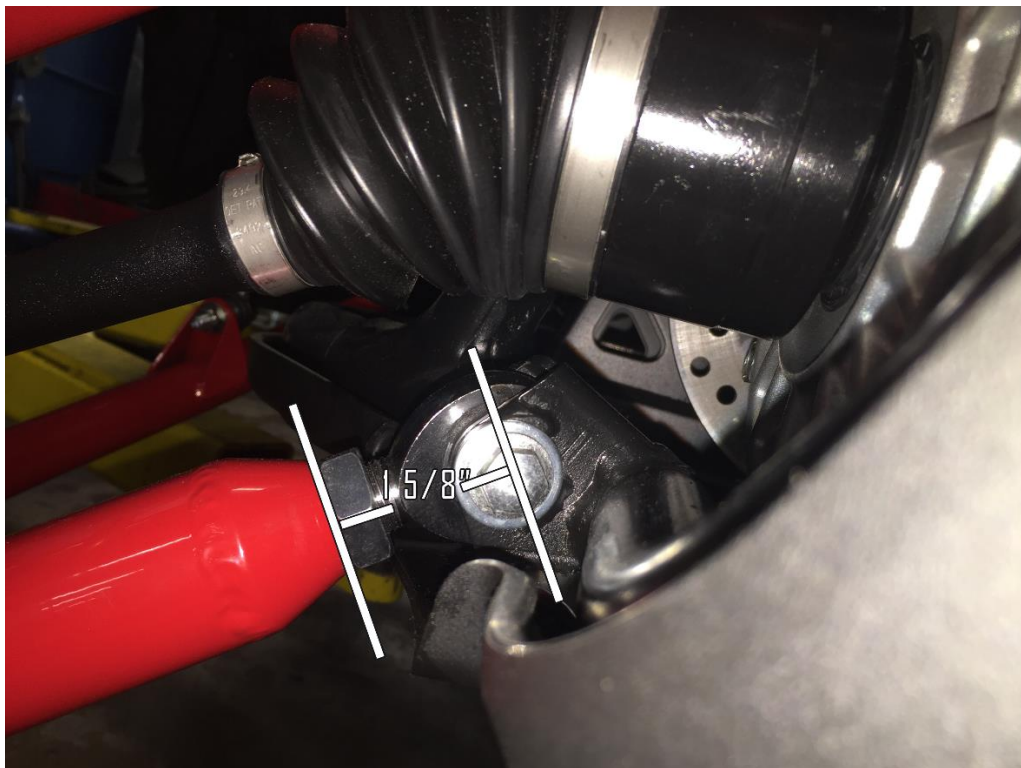

Figure 3-1
-Rear front rod ends must be set at 45 degree angle(fig 3-1)